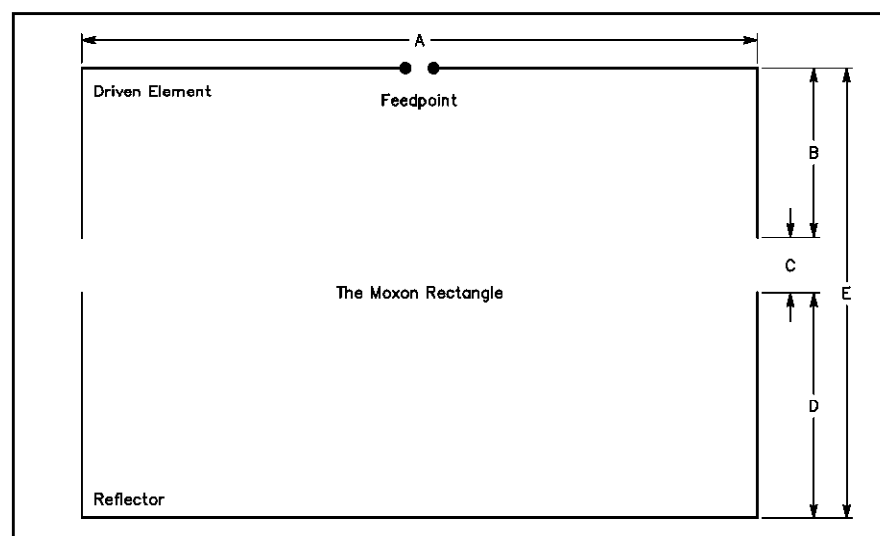

Figure 1—Outline of a Moxon Rectangle with various dimensions labeled. See the text for an explanation of the labels.
In its most fully developed monoband form, a Moxon Rectangle outline looks like the sketch in Figure 1. A is the side-to-side length of the parallel driver and reflector
All dimensions refer to designations in Figure 1. Dimensions are in feet and apply to #14 AWG bare-wire antennas.
The Moxon Rectangle functions by virtue of the mutual coupling between parallel element segments and the coupling between the facing element tips. Hence, the gap between element tips (dimension C in Figure 1) is the most critical dimension. Measure the gap accurately and ensure that the spacing does not change over time. The other dimensions follow from setting the gap in order to obtain the desired performance characteristics.
- Decreasing or increasing the side-to-side dimension (A in Figure 1) raises or lowers the maximum F/B and the resonant feedpoint frequencies by about 40 kHz. For small changes in dimension A, the resonant feedpoint impedance does not change.